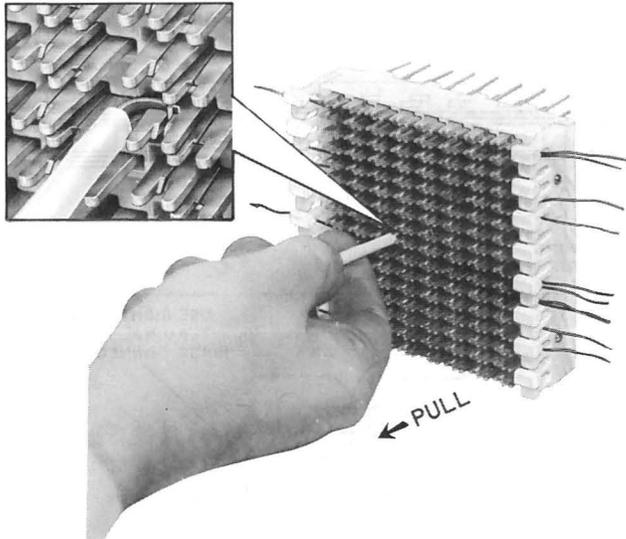

Fig. 13—Use of 724A Tool
3.10 Place the 724A tool fingers astraddle the terminal beam and under the wire. Grasp the tool as shown in Fig. 13 and pull the wire from the terminal and away from adjacent terminals.